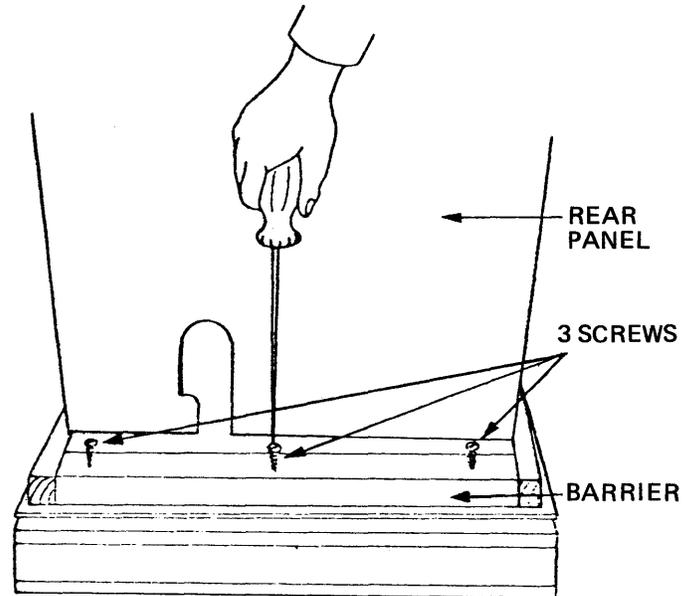

Figure 6-2. Removing Barrier
8. Unscrew barrier (see figure 6-2).